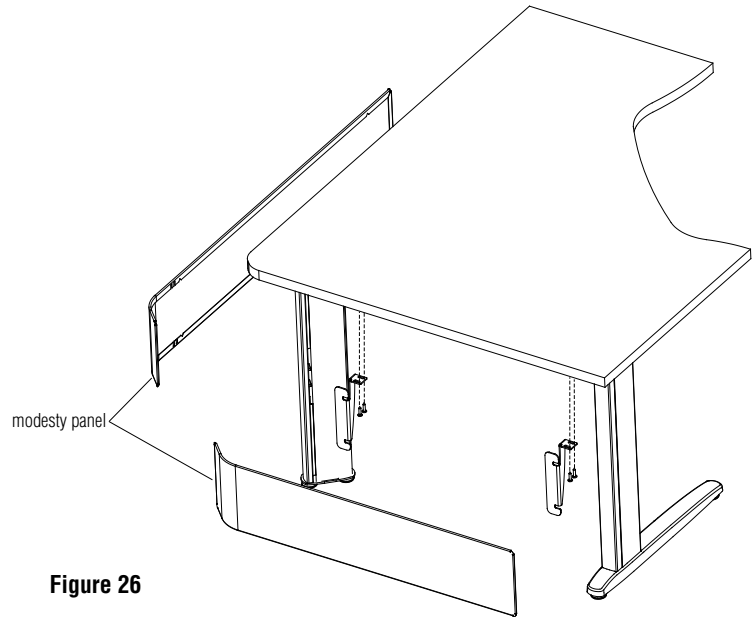

Figure 26
1. Identify correct length modesty panel for length of table side (60" and 48" shown). Radius bends (if applicable) orient toward corner post or peninsula post leg (Figure 26).